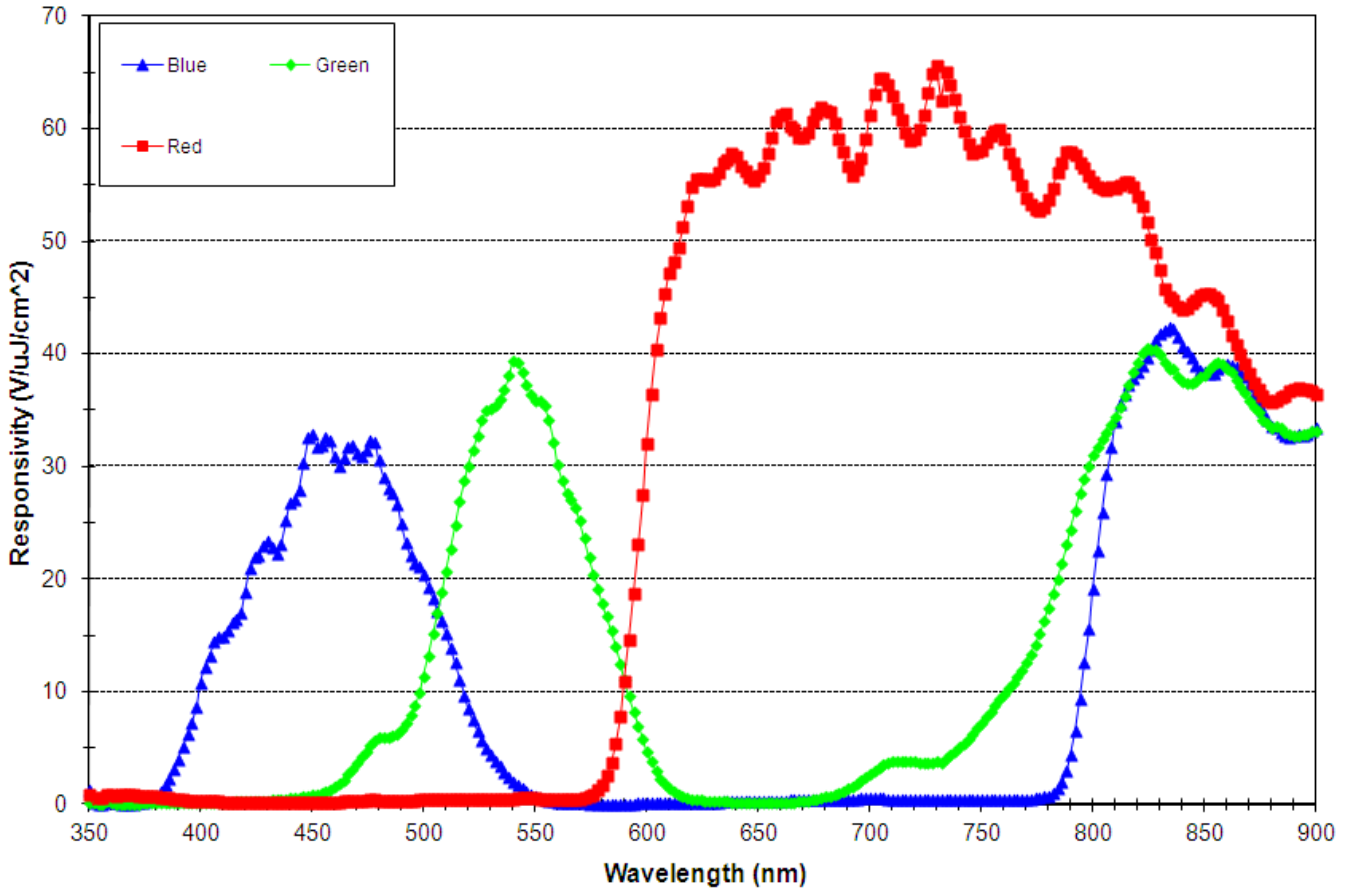

Figure 6: KLI-2104 Responsivity - Color Channels
2. With color filter. Values specified at filter peaks. 50% bandwidth = ±30 nm. Color filter arrays become transparent after 710 nm. It is recommended that a suitable IR cut filter be used to maintain spectral balance and optimal MTF. See quantum efficiency plots in Figure 6.